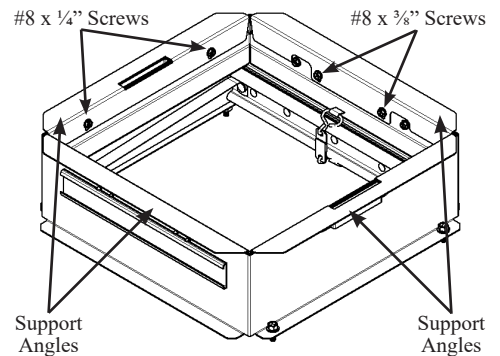

Fig. 6 - Support Angles Installation
- After the gypsum ceiling has been installed, secure the supplied support angles to the damper frame with the supplied four #8 x 3/8" and four #8 x 1/4" screws using the pre-drilled holes in the frame. (Refer Fig. 6)